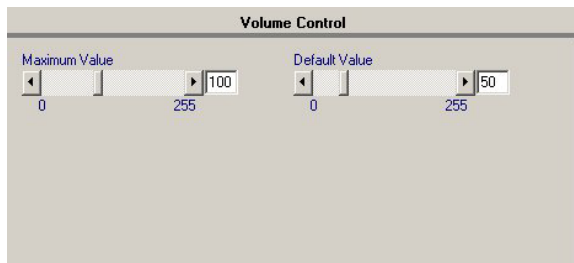

FIG. 49 Volume Control options
2. Click **Volume Control**. The Volume Control options appear (FIG. 49).